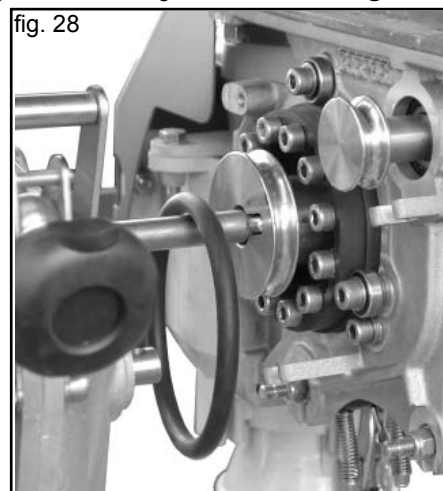

fig. 28
- Simply leave the belt on the drive shaft (Fig. 28).